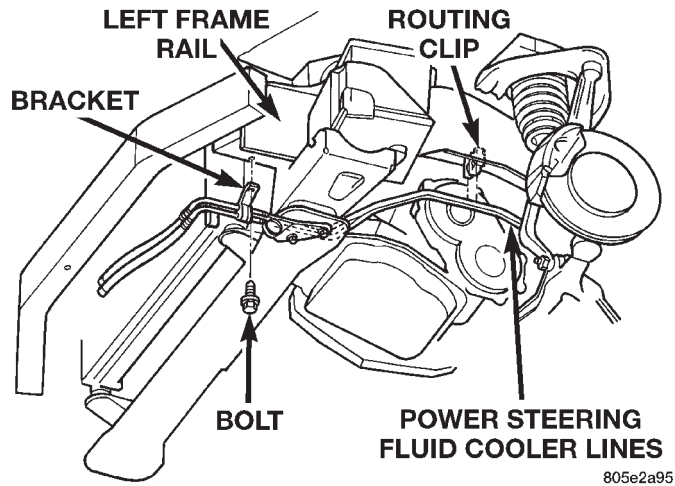
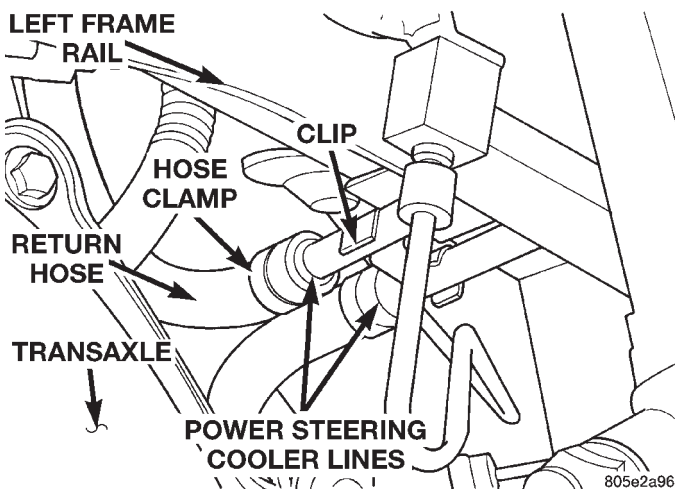
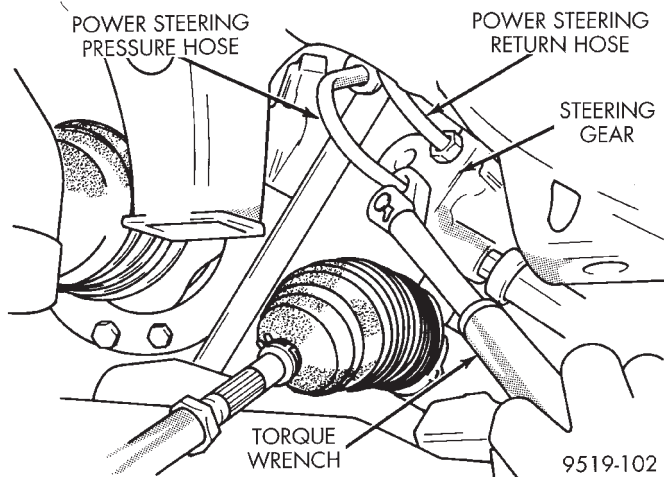

Fig. 47 Power Steering Cooler Line Attachment
Fig. 48 Power Steering Cooler Line Clip
Fig. 50 Torquing Power Steering Fluid Hose Tube Nuts
(7) Remove the bracket attaching the power steering fluid cooler lines to the left front frame rail (Fig. 47).
(8) Lower the front suspension crossmember. Refer to the steering gear service procedures in this group of the service manual for the required procedure for the removal of the front suspension crossmember.
(9) Remove the clip (Fig. 48) holding the power steering fluid cooler lines together.
(10) Remove the hose clamp (Fig. 48) attaching the power steering fluid return hose from the engine, (Fig. 48) to the power steering fluid cooler lines.
(12) Remove the power steering fluid cooler lines from the routing clip on the left front frame rail (Fig. 47).
- (3) Install the hose clamps on the power steering fluid hoses.
- (4) Install the power steering fluid return hose coming from the engine on the power steering cooler line (Fig. 48). **Be sure hose clamp is installed on hose past the upset bead on the power steering cooler line.**
- (5) Using Crimper, Hose Clamp, Special Tool C-4124 properly crimp the clamps on the power steering fluid hoses at the power steering oil cooler line.
- (6) Install the power steering fluid return hose on the steering gear. Then using a crow foot and torque wrench (Fig. 50) tighten the tube nut to a torque of 31 N·m (275 in. lbs.).
- (7) Install the clip (Fig. 48) holding the 2 power steering fluid cooler lines together.
- (8) Install the front suspension crossmember. Refer to the steering gear service procedures in this group of the service manual for the required procedure for the installation of the front suspension crossmember.
- (9) Install the left front wheel/tire.
(10) Install the bracket attaching the power steering cooler lines to the left frame rail (Fig. 47). Install bracket attaching bolt and tighten to a torque of 7 N·m (60 in. lbs.).
(11) (Fig. 47).